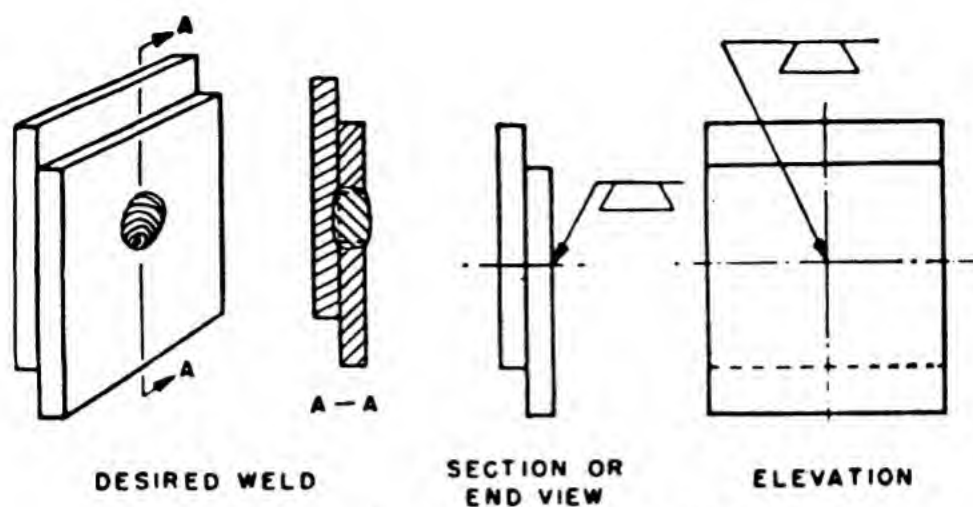

Figure 11-23.—Use of arrow-side plug welding symbol.
2. If the hole to be plug welded is on the arrow side, the weld symbol is placed on the side of the reference line toward the reader, as shown in figure 11-23.